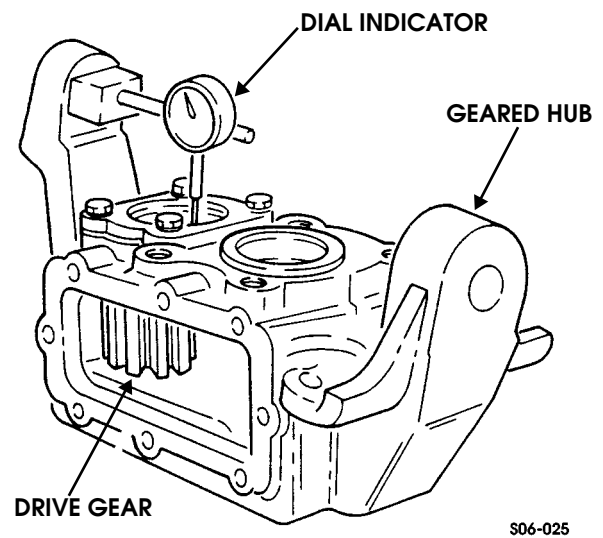

Figure 9-30: Dial Indicator Positioning
- Mount dial indicator on geared hub and index indicator to register on end of drive gear (Figure 9-30).